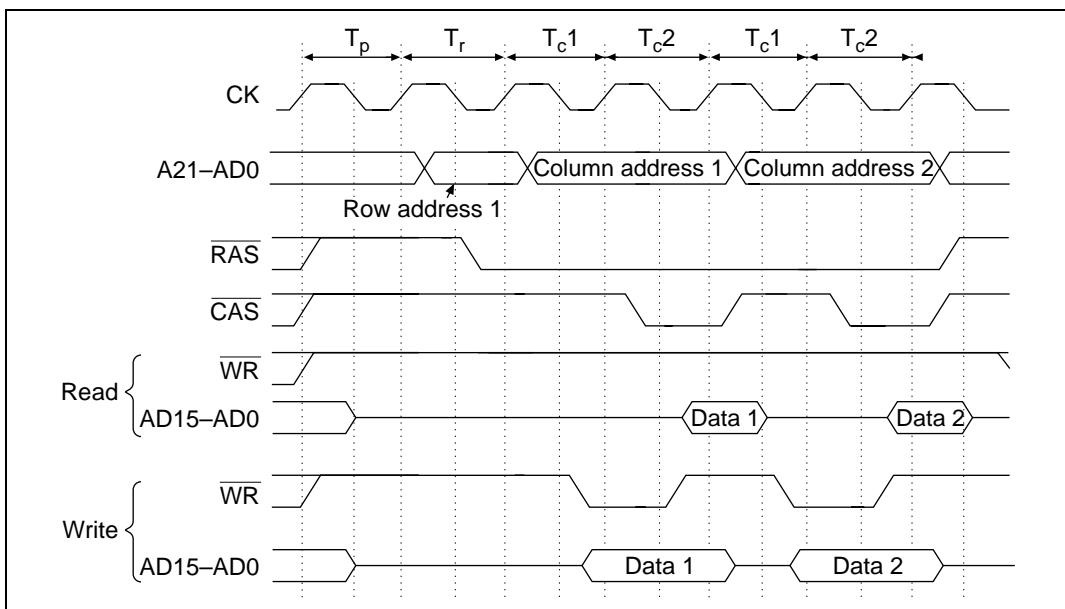

Figure 8.26 Long-Pitch, High-Speed Page Mode (Read/Write Cycle)
- Long-pitch, high-speed page mode: When the RW1, WW1, DRW1, and DWW1 bits in WCR1 and WCR2 are set to 1, and the corresponding DRAM access cycle is continuing, the $\overline{\text{CAS}}$ signal and column address output cycles (2 states) continue as long as the row addresses continue to match. When the $\overline{\text{WAIT}}$ signal is detected at the low level, the second cycle of the column address output cycle is repeated as the wait state. Figure 8.26 shows the timing for long-pitch, high-speed page mode. See sections 20.1.3 (3) and 20.2.3 (3), Bus Timing, for more information about the timing.